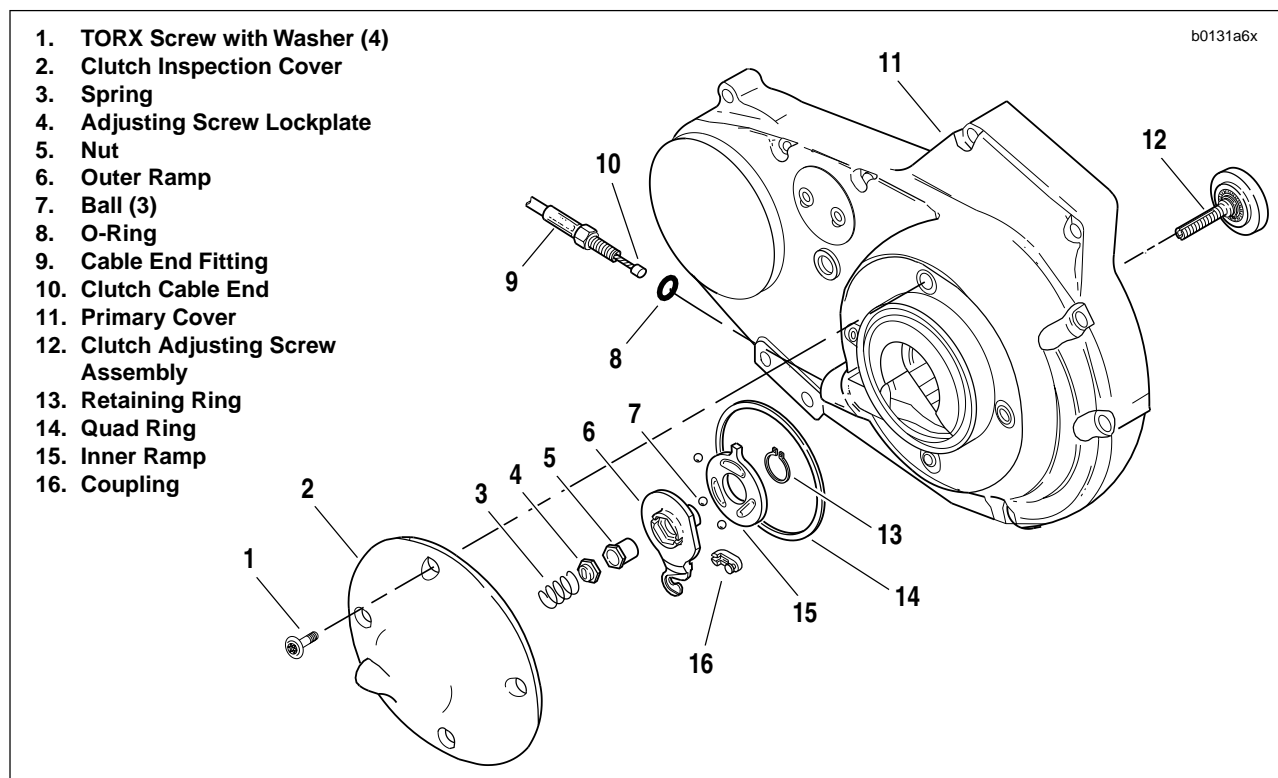

Figure 2-87. Clutch Release Mechanism
2. See Figure 2-87. Remove four TORX screws (1) with washers and clutch inspection cover (2). Do not damage or dislodge quad ring (14) in primary cover (11).
3. Slide spring (3) with attached hex lockplate (4) from flats of adjusting screw (12).
4. Turn adjusting screw clockwise to release ramp and coupling mechanism. As the adjusting screw is turned, ramp assembly moves forward. Unscrew nut (5) from end of adjusting screw.
5. Remove hook of ramp (6) from button at the rear of cable end coupling (16). Remove cable end (10) from slot in coupling.
6. Turn cable end fitting (9) counterclockwise to remove clutch cable lower section from primary cover (11). Remove O-ring (8) from cable end fitting.
- See Figure 2-87. Install O-ring (8) over cable end fitting (9) of clutch cable lower section. Turn fitting clockwise to install into primary cover (11). Tighten to 3-5 ft-lbs (4-7 Nm).
- Fit coupling (16) over cable end. Place hook of ramp around coupling button and rotate assembly counter-clockwise until tang on inner ramp (15) fits in slot of primary cover (11).
- Thread nut (5) on adjusting screw (12) until slot of screw is accessible with a screwdriver. Fit nut hex into recess of outer ramp (6) and turn adjusting screw counter-clockwise.